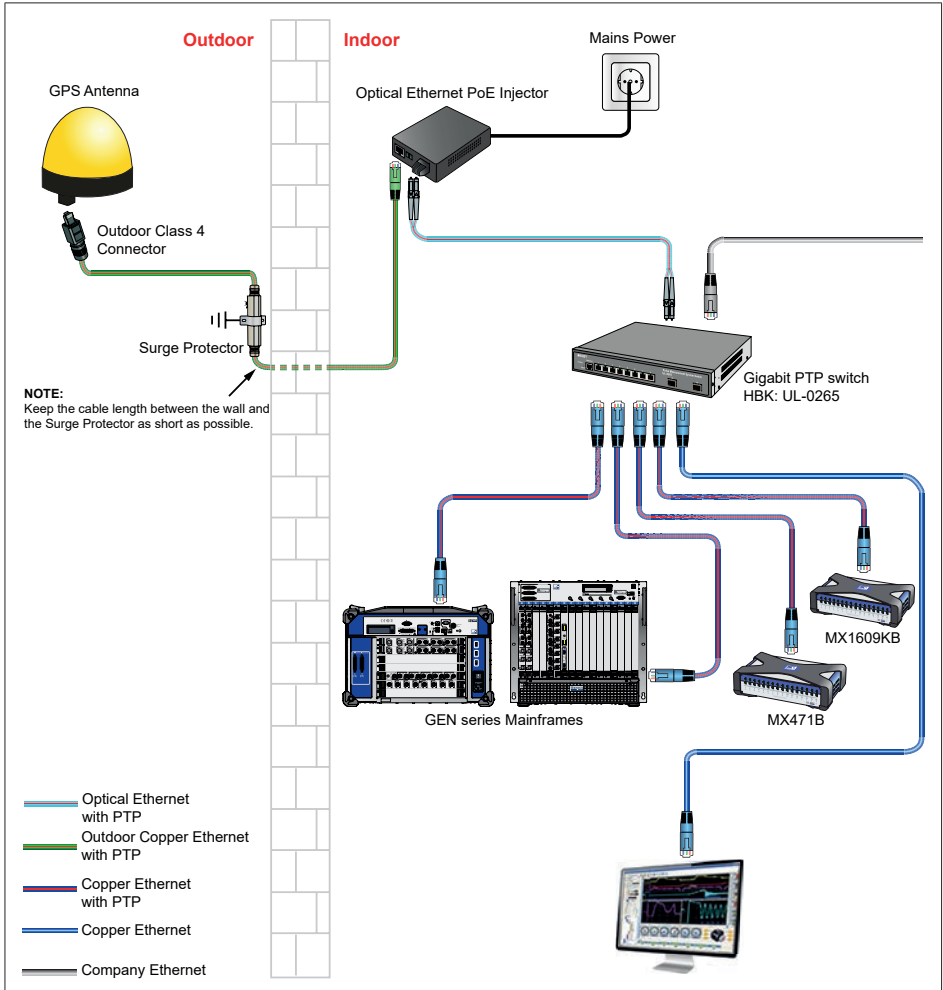

Fig. 15.30 GPS setup for tethered mainframes and QuantumX
7. After finishing these steps the G002B option is fully installed and operational (see also Fig. 15.30).